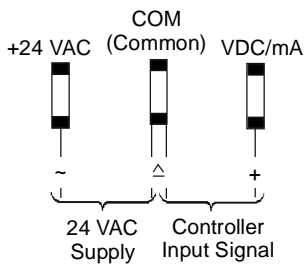

Figure 8: VA-8122 Wiring
The VA-8122 wiring connections are made to the tab receptacles shown in Figure 8. Use either the quick-connect terminals shown in Figure 9 or an M9000-105 Pluggable (3-position) Terminal Block.
3. Make the wiring connections to the terminals as shown in Figure 8.